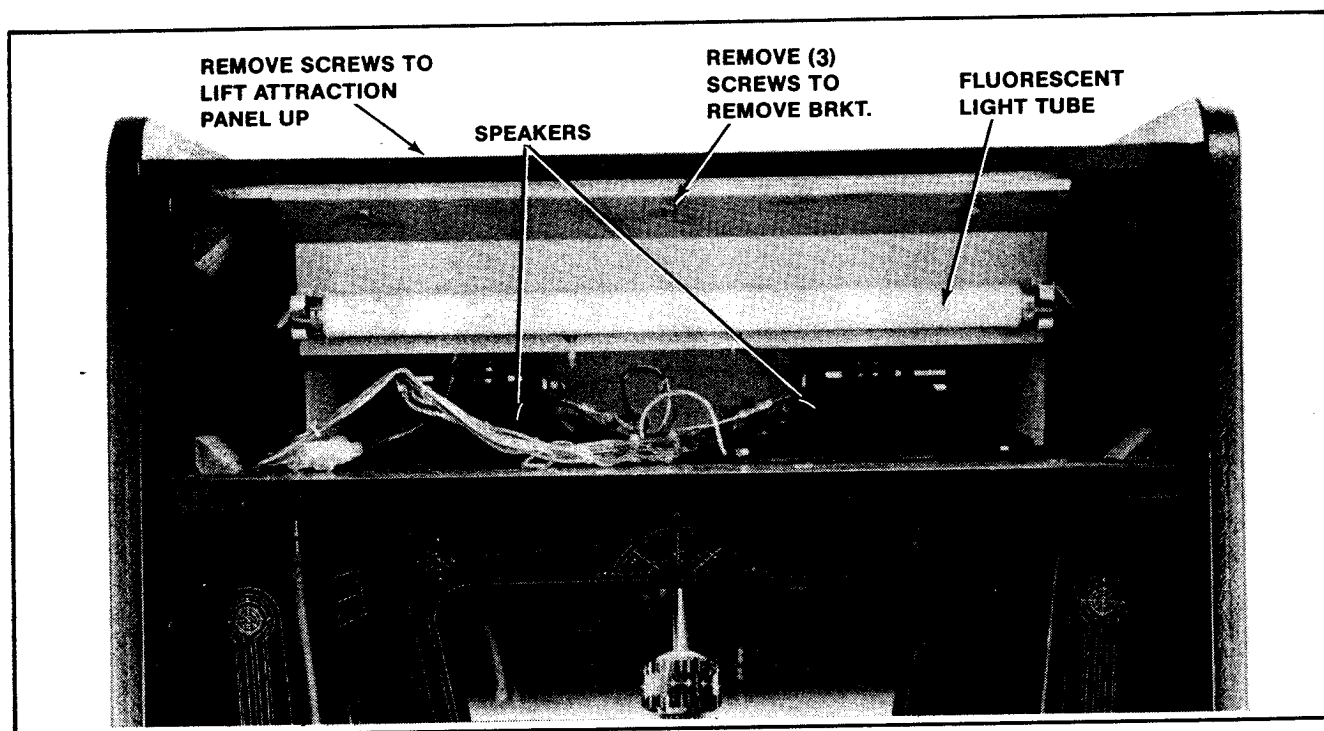

Figure 4-15 Opening Attraction Panel — Upright
Remove the screws which secure the top bracket in place. (They are on its top side.) See Figure 4-15.
Remove the top bracket and slide up the attraction panel. This exposes the attraction panel fluorescent light tube and its mounting bracket assembly. See Figure 4-15.
- ☐ Replacement of the fluorescent tube mounting bracket assembly. See Figure 4-15.
- ☐ Replacing the speaker. See Figure 4-15.